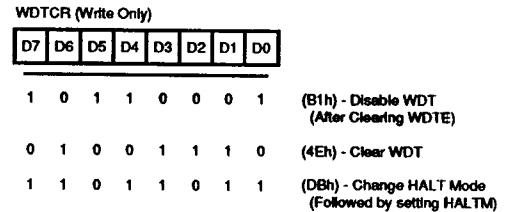

Figure 23. Watch Dog Timer Command Register
**Watch Dog Timer Command Register (WDTCR; I/O address F1h).** In conjunction with the WDTMR, this register works as a "Second key" for the Watch Dog Timer. This register is write only (Figure 23).